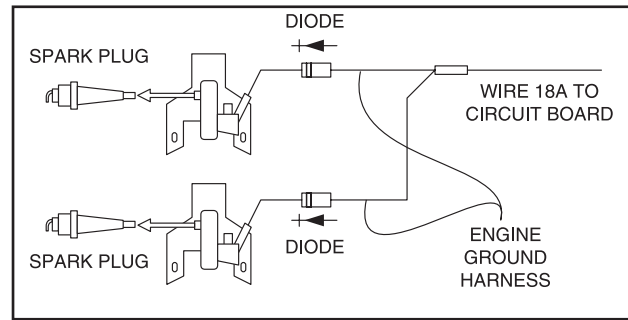

Figure 7-38. – Engine Ground Harness
13. Disconnect the engine ground harness from the ignition magnetos and stud connector (see Figure 7-38).